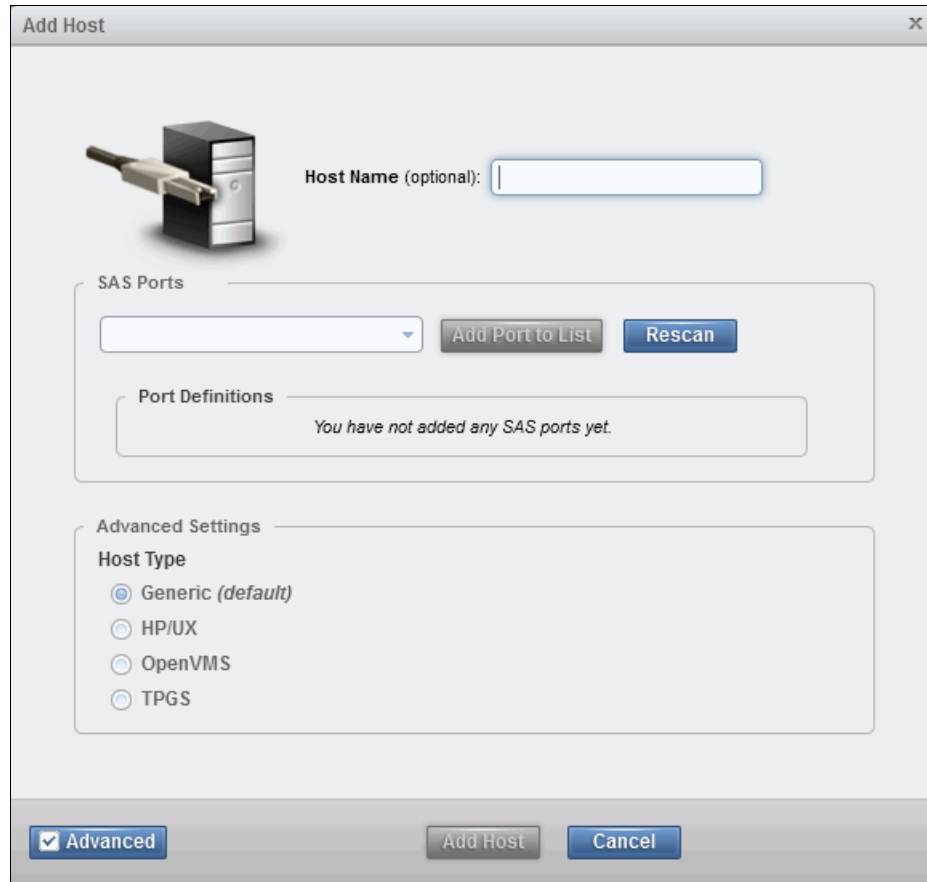

Figure 4-55 The SAS host configuration wizard
1. Click **SAS Host**. The SAS host configuration wizard opens, as shown in Figure 4-55.